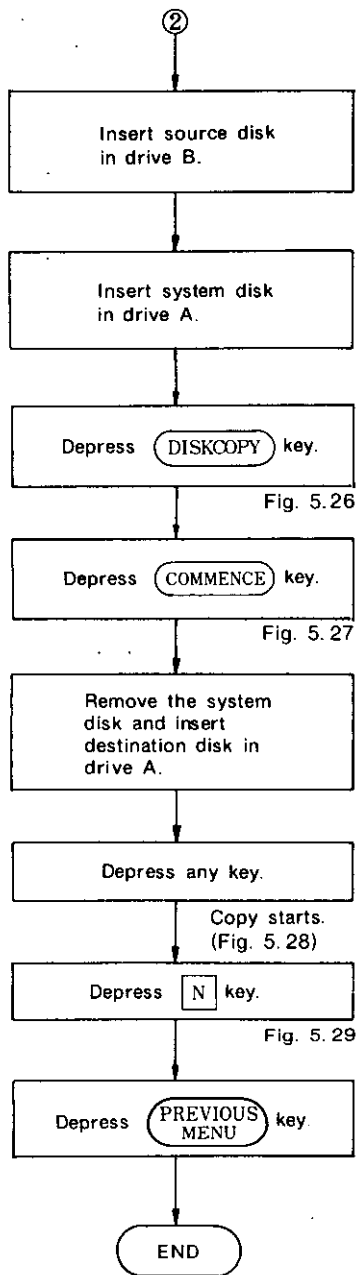

Fig. 5.26
2. Depressing **CANCEL** key (Fig. 5.26) calls up the display in Fig. 5.23.